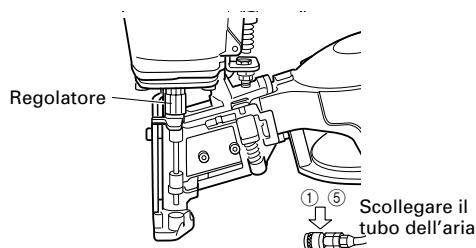

Fig. 8
- ① **SCOLLEGARE IL TUBO DELL'ARIA DALLA CHIODATRICE (Fig.8)**